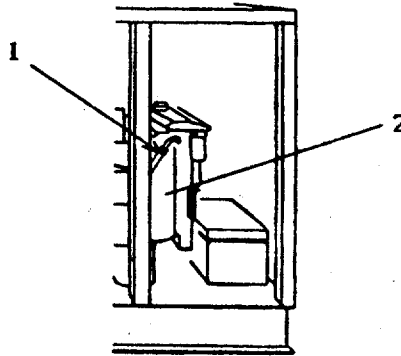

Figure 2-3. Engine Oil Level Dipstick.
**2-3. ENGINE OIL LEVEL DIPSTICK (Figure 2-3).** The oil level dipstick (1) is located on the side of the engine (2) and is used to check engine oil level when the engine is not running.